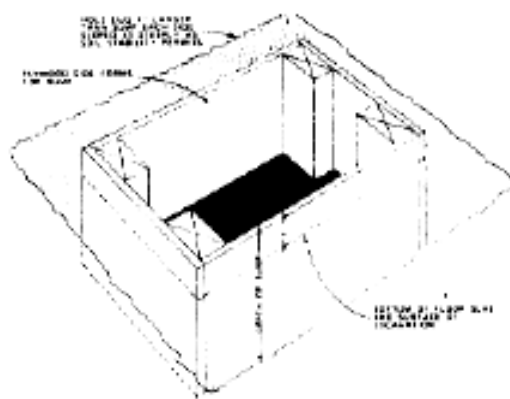
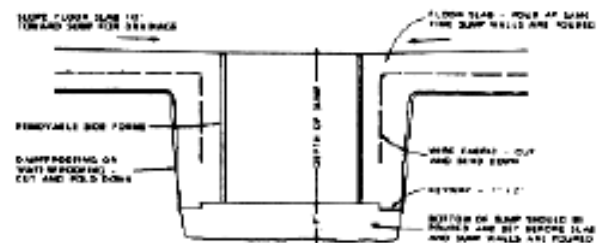

Figure 27. Excavation and forming of the sump
Figure 28. Cross section through the sump
The sump is a pit in the floor slab measuring 12" to 15" each way and 15" to 18" deep. The sump pit is formed by digging an oversized hole in the correct location and to the desired depth below the level of the floor slab. A plywood form, sized for the pit opening, is placed in the hole after a concrete base of the pit is poured (as shown in Figure 28) but before the floor slab concrete is poured. Concrete then is poured around the sump form at the same time the floor slab is poured. When the form for the sump is removed, a concrete lined pit is created into which a sump pump can be placed. Details for construction of the sump are shown in Figures 27, 28, and 29.
Step 2. Pour a concrete pad about 4" thick at the bottom of the hole so that the top surface of the pad is at the intended depth of the sump pit. Install a keyway in the wet concrete which is continuous around the four sides of the pad and is positioned as shown in Figure 28. The keyway will provide a bond for the concrete side walls of the sump which will be poured with the floor slab. Trowel the top surface of the freshly poured pad to a smooth surface. The key way may be formed with a length of 1" X 2" with beveled sides (the beveled sides make removal of the keyway easier after the concrete has set up).
Step 4. Cut the wire fabric reinforcement and dampproofing or waterproofing membrane diagonally across the corners of the sump form and fold each down around the edges of the hole as is indicated in Figure 28. If a waterproofing membrane is used any cut edges must be sealed to make the membrane watertight (see Section 7 for a discussion of waterproofing membranes).